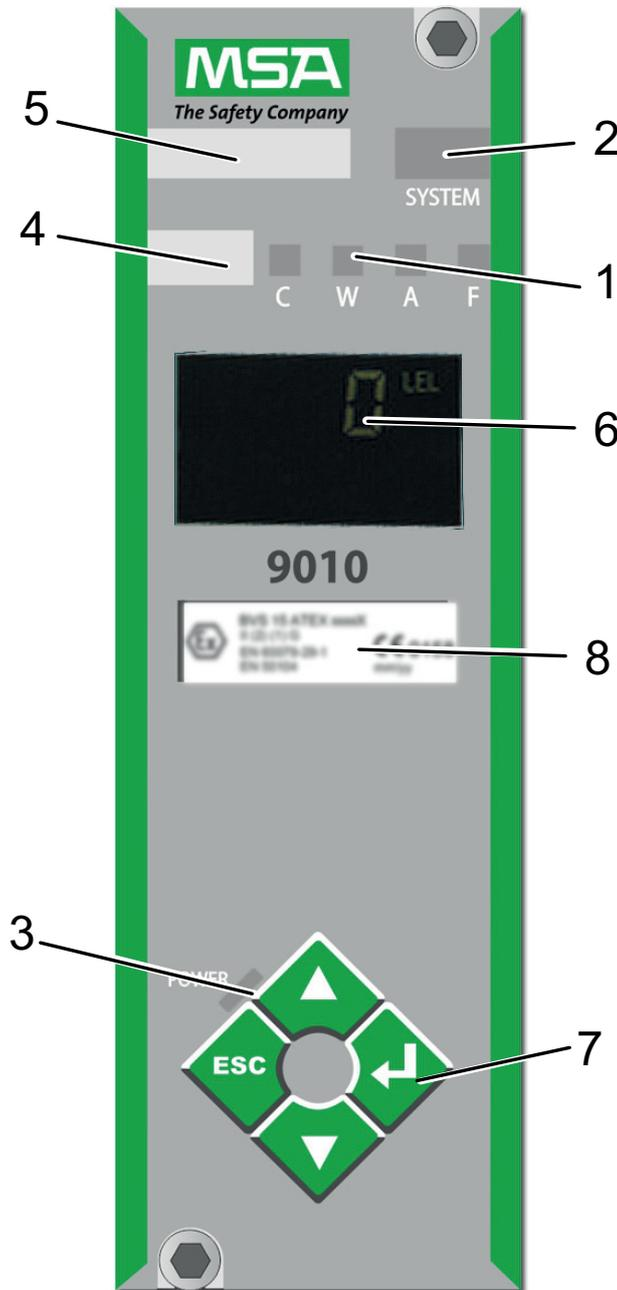
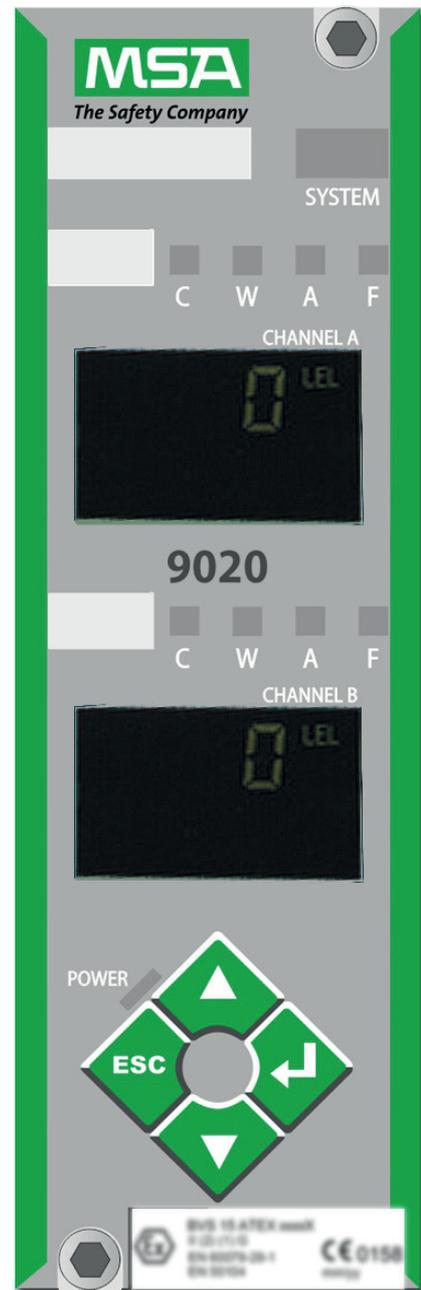

Fig. 3 9010
Fig. 4 9020
- Wall mounted unit for direct wall installation (Fig. 3 and Fig. 4).